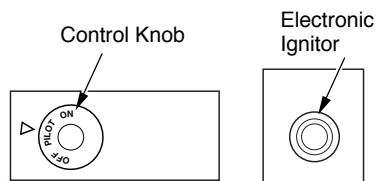

Figure 40 - Control Knob and Ignitor Button Location (Shown as Supplied - No Control Options)
3. Press in and turn control knob clockwise  to the OFF position (see Figure 40).
4. Wait five (5) minutes to clear out any gas. Then smell for gas, including near the floor. If you smell gas, STOP! Follow "B" in the safety information, column 2, page 25. If you don't smell gas, go to the next step.
5. Press in and turn control knob counterclockwise  to the PILOT position. Press in control knob for five (5) seconds (see Figure 40).